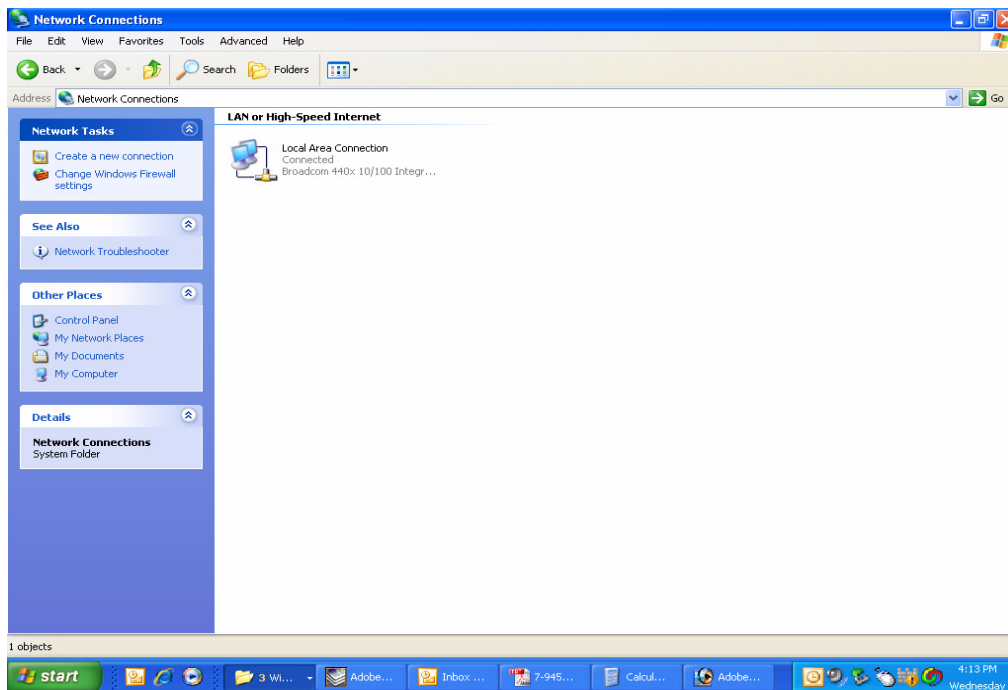

Figure B3: Select the "Local Area Connection" icon.
- 4) When the "Network Connections" folder opens double click on the "Local Area Connection" icon. See **Figure B3**.